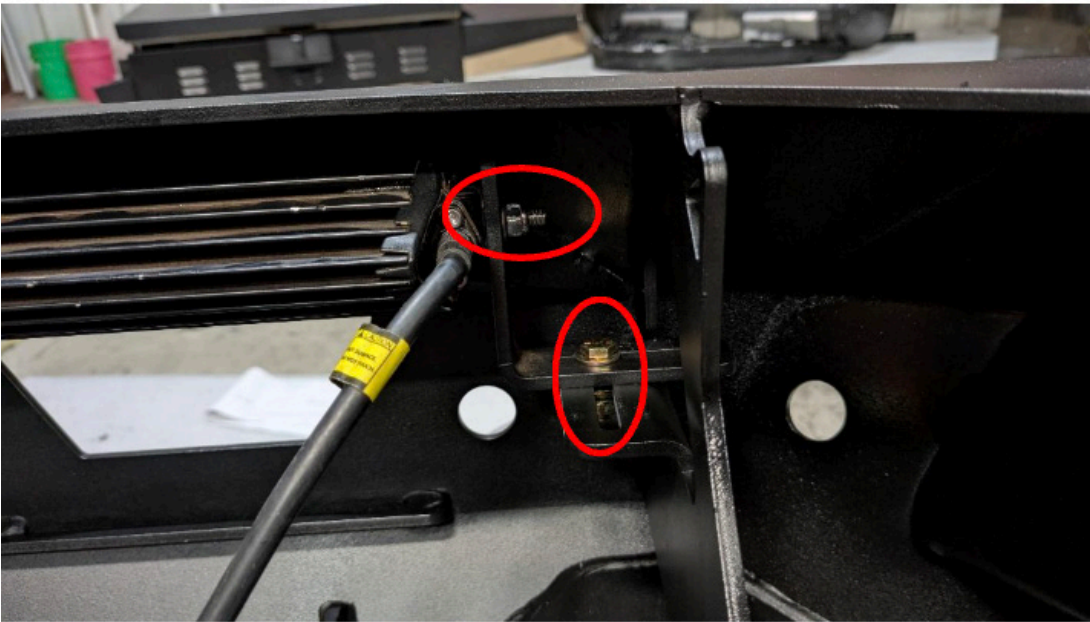

Figure 44.
34. If installing a lightbar, do so now using the provided L-brackets and four (4) 1/4" hex head cap screws, flat washers, lock washers and nuts. Use a 7/16" tighten the previously installed hardware. Figure 44.